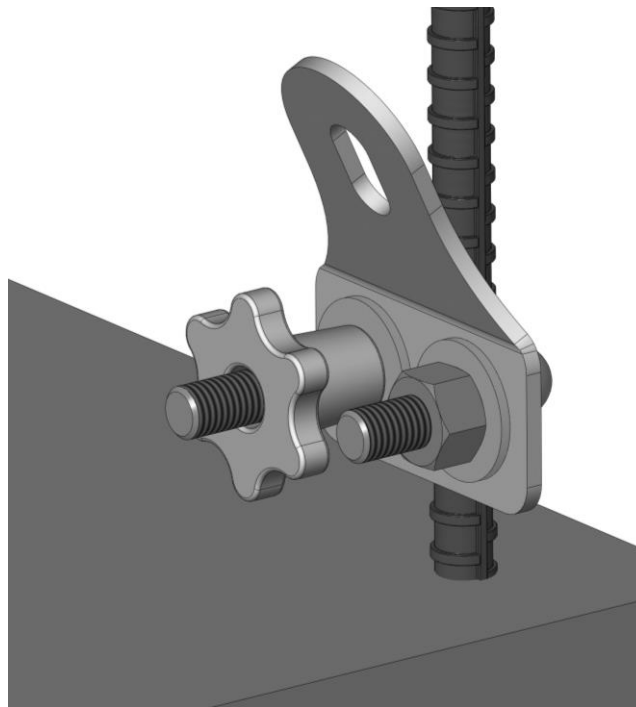

Fig. 2 – HLL Rebar Tieback Clamp 6200-011
10. If the rebar column is open on the top side, slide the bracket down the exposed end of the rebar until the bracket is as far down the rebar and close to the cement surface as possible (see Fig. 2).